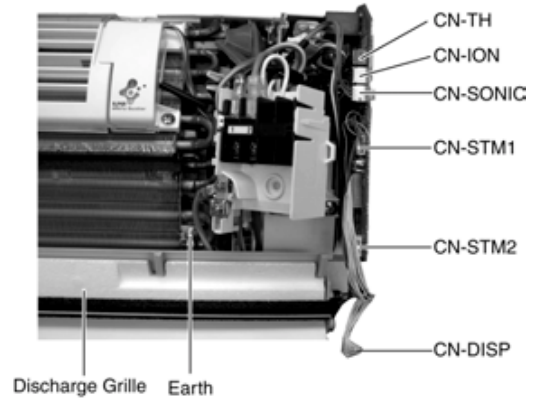

Fig. 5
- a. Release the Earth Wire screw. (Fig. 5)
- b. Release the CN-TH connector. (Fig. 5)
- c. Release the CN-ION connector. (Fig. 5)
- d. Release the CN-SONIC connector. (Fig. 5)
- e. Release the CN-STM1 connector. (Fig. 5)
- f. Release the CN-STM2 connector. (Fig. 5)
- g. Release the CN-DISP connector. (Fig. 5)
- h. Pull out the Drain Hose from outlet to remove the Discharge Grille. (Fig. 5)